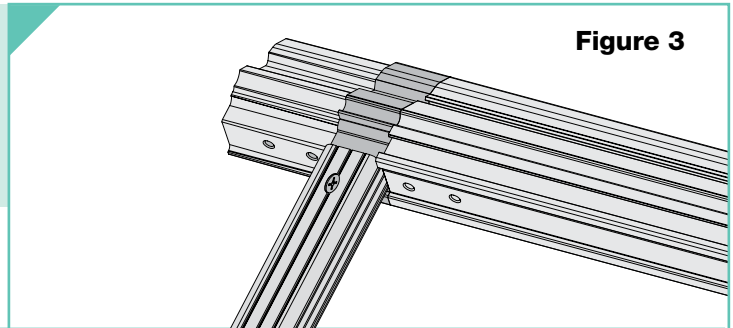

Figure 3
3. When assembling a large frame, use the two (2) vertical support connectors on the top and bottom sections (see Fig. 3). Connect these sections together with the Vertical Support Bar. Secure all frame sections and connectors with provided screws.